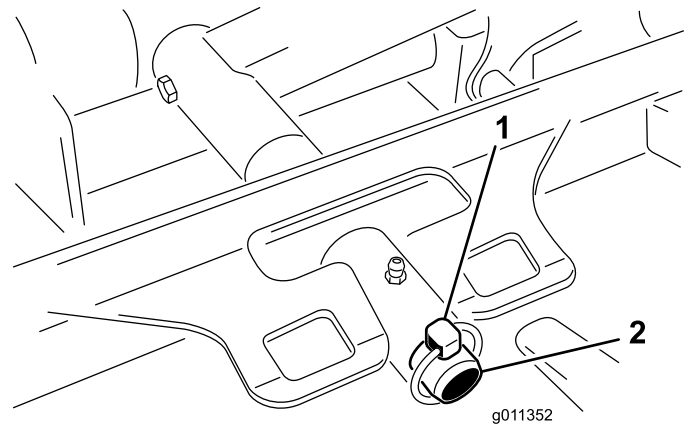

Figure 58
3. Remove the lynch pin or retaining nut (GM 4700 only) securing the deck carrier frame to the lift-arm pivot pin (Figure 58).
3. Slide the deck carrier frame onto the lift-arm pivot pin. Secure with lynch pin or retaining nut (GM 4700 only) (Figure 58).